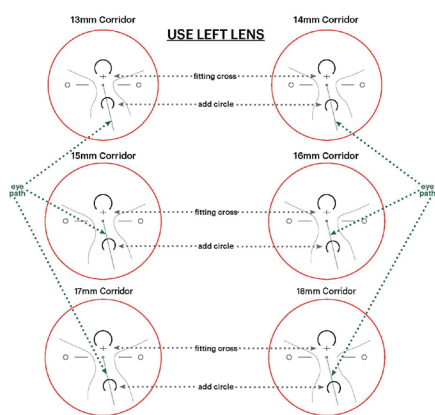

FIG. 15
**Variable corridors:** Take advantage of variable corridor designs when tailoring eyewear for the patient. The eyecare practitioner may request a specific corridor length or allow sophisticated software technology to select it based on the frame size, monocular PD and fitting height for each individual prescription. Signet Armorlite makes corridor length selection easy for KODAK Progressives. Simply mark the fitting height on the lens, then align the fitting mark of the left lens with the fitting cross on the various corridors pictured (Fig. 15) on the chart until you find the longest corridor with the entire near reference circle within the eyewire.